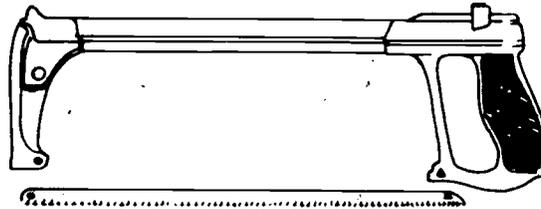

FIGURE 1
- B. Insert blade in frame (Figure 1)